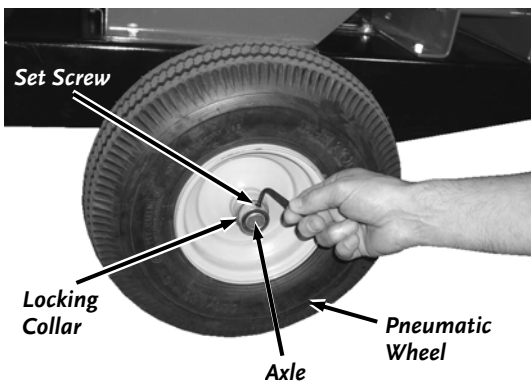

Figure 60
2. Loosen the Set Screw with a 5/32" Allen wrench and remove the Locking Collar (**Figure 60**).